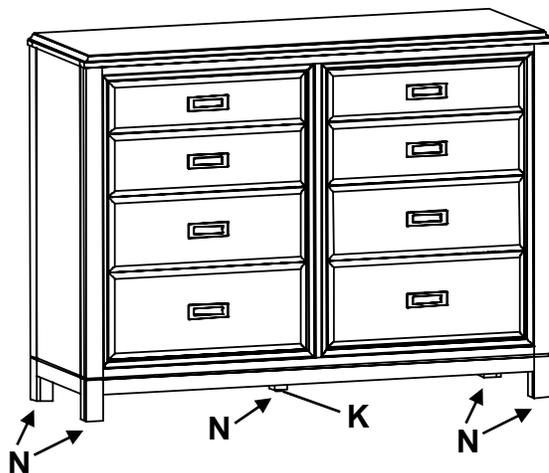

Fig. 1
1. Place the dresser at its final destination. Rotate the Small Adjustable Glides (N) on the bottoms of the legs until the unit is level. See Figure 1.